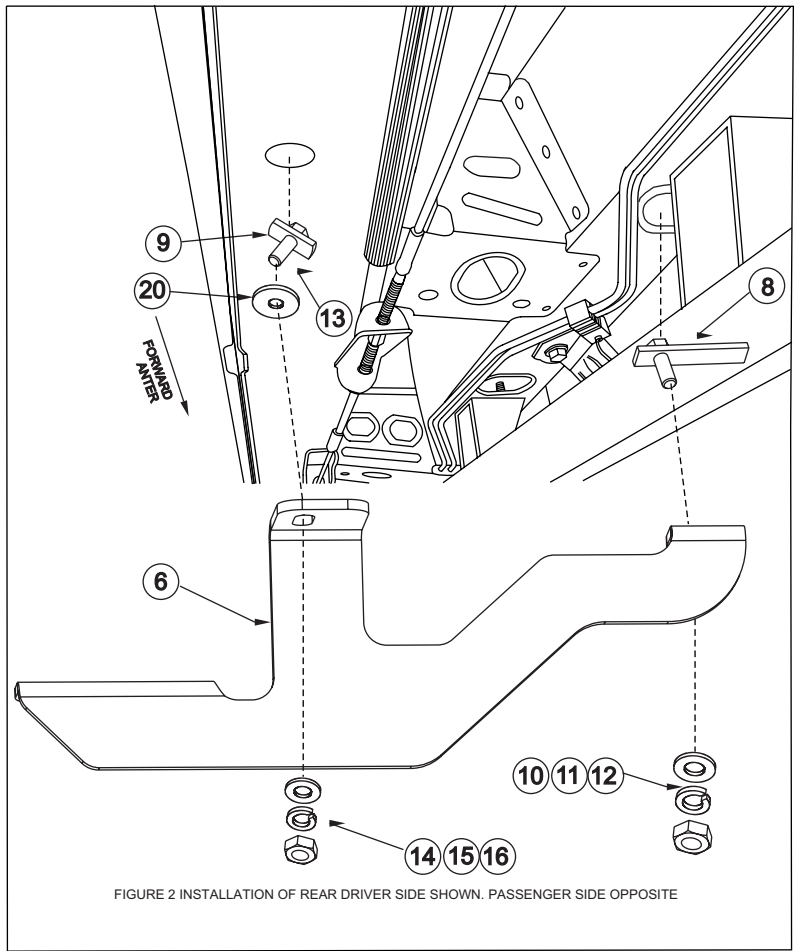

FIGURE 2 INSTALLATION OF REAR DRIVER SIDE SHOWN. PASSENGER SIDE OPPOSITE
STEP 4. Thread 3/8-16 x 1.25" hex head bolt through bridge weld nut, insert into hole, and use plastic washer to hold in place. **SEE FIGURE 2.**
STEP 5. Insert 1/2-13 x 1.50" bolt plate into hole. **SEE FIGURE 2.**
STEP 6. Attach rear driver side bracket to the previously inserted bolt plates. **SEE FIGURE 2.**